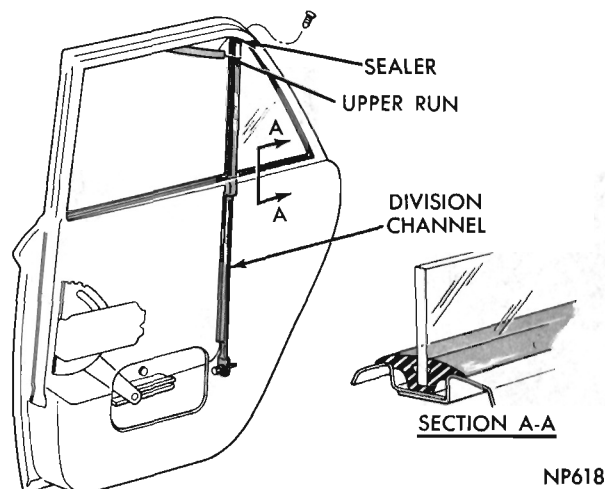

Fig. 7 - Rear Door Stationary Glass-Sedan
- (1) Remove division channel attaching screws at upper and lower ends (Fig. 7) and remove channel.
- (2) Move the glass and weatherstrip assembly forward and out of window opening.
- (3) Inspect the weatherstrip.